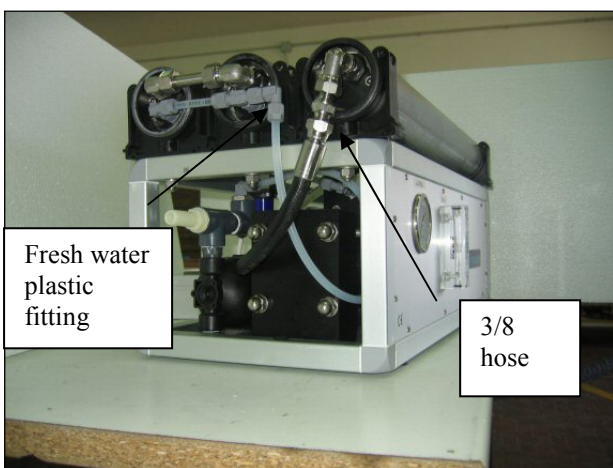

Fig. 2 – Left view
- 2) Disconnect, using 2 wrenches, the 3/8 high pressure hose coming from the first tube, and the fresh water plastic fitting (fig. 2)